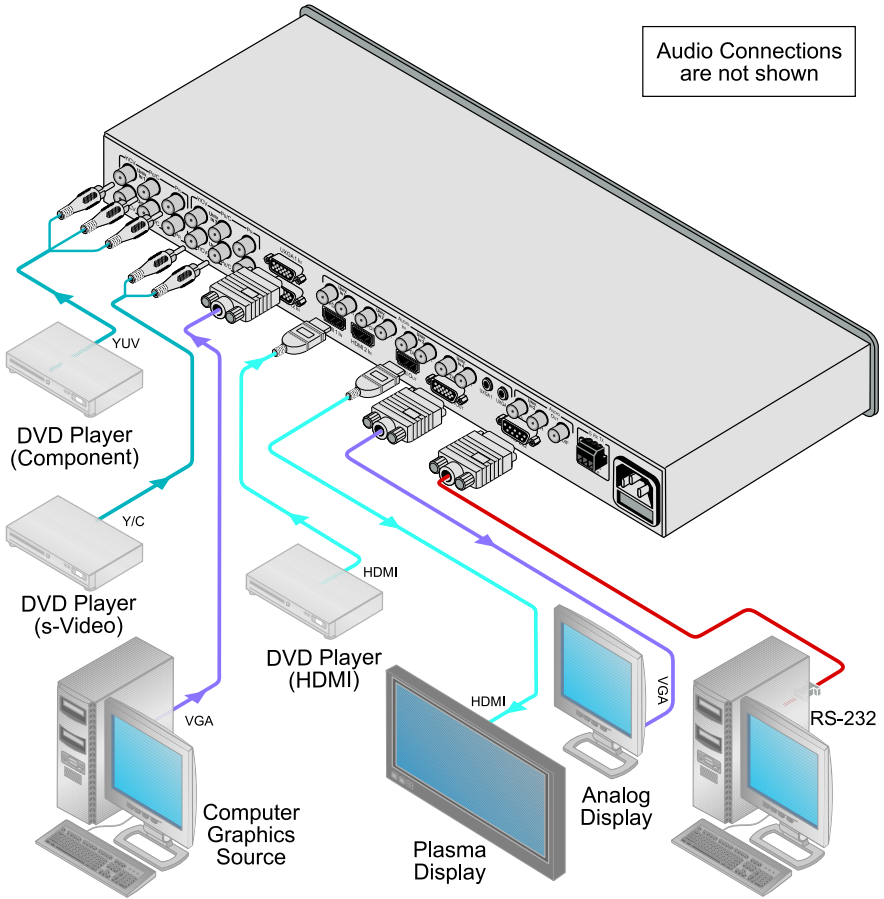

Figure 3: Connecting the VP-728 Rear Panel
To connect1 the **VP-728** as illustrated in the example in Figure 3, do the following2:
- A graphics data source (for example, JPEG files from a PC or a USB flash drive) to the USB connector on the front panel of the machine (not illustrated in Figure 3)
2. Connect the unbalanced stereo or digital audio sources5 (not illustrated in Figure 3):
4. Connect the AUDIO OUT L and R unbalanced stereo audio output and/or the S/PDIF digital audio output to audio acceptors, for example, speakers (not illustrated in Figure 3).
5. Connect the power cord1 (the power connector is not illustrated in Figure 3).